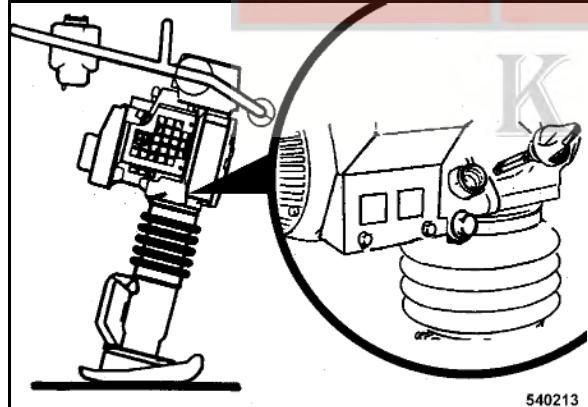

Fig. 37 □
- Remove the oil dipstick (Fig. 37).